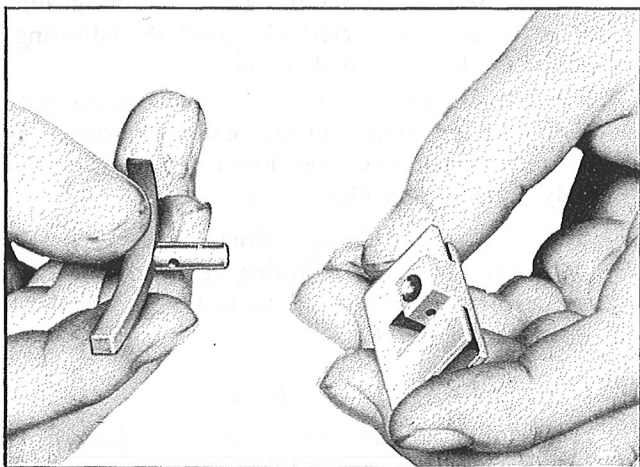

Figure 205—Installation of the Governor Shoe
*Step 5.*—Hold the carriage in the left hand with the roller down so as to face the carriage boss. Insert the shoe and safety it with a  $\frac{1}{16}$ " cotter key inserted from right to left. See Figure 205.